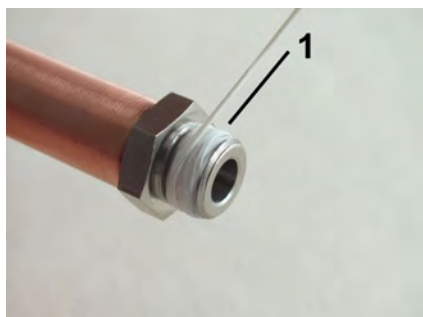

Fig. 8: Apply sealing thread
2.  Apply sealing thread (Fig. 8/1) to the napped area in the threaded direction. Observe the quantity recommended by the sealant manufacturer.